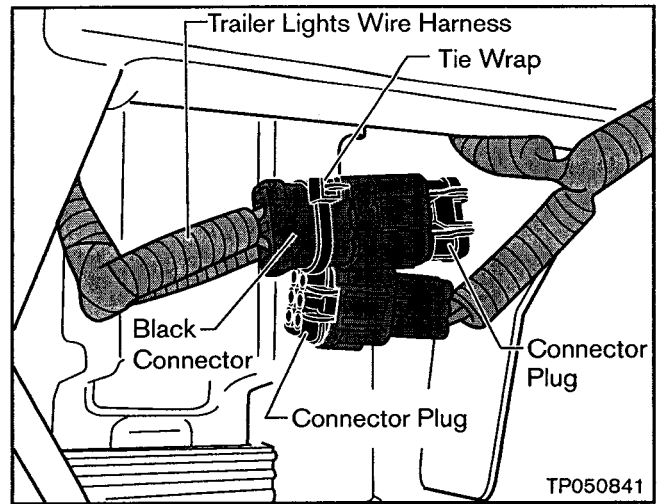

Figure 5
6. After the Connector Plugs are installed, secure the Black Connector to the harness with a Tie Wrap as shown in Figure 5.